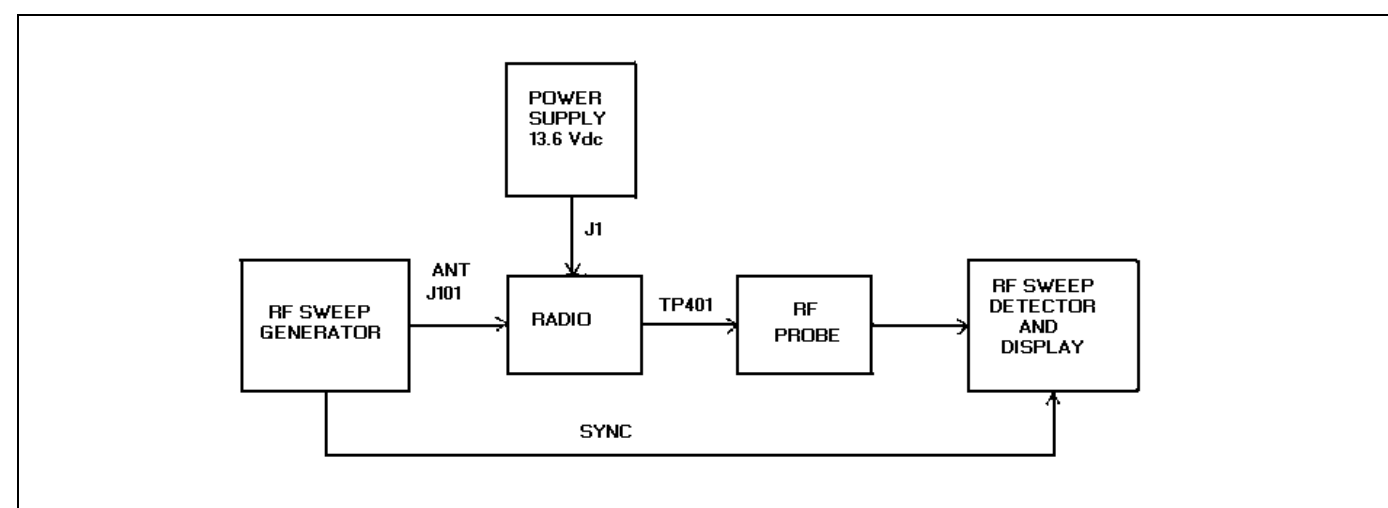

Figure 5 - Receiver RF Tuning Test Configuration
See Figure 5 for test configuration. The receiver RF filters Z401 and Z402 are fixed tuned for the most commonly used 20 MHz segment of a split. The filters do not require tuning even if they are replaced. The purpose of the tuning adjustment for each filter is to move the pass-band to another 20 MHz segment of the split. If all the receiver channels are within the pre-set 20 MHz bandwidth, skip the rest of this section since no front end tuning is required:
1. Apply a sweep signal generator (or equivalent equipment) with markers set to the desired 20 MHz bandwidth to antenna jack J101 as shown in Figure 5. RF output level of the generator should not exceed - 10 dBm. Reduce the output level if necessary to keep RF amplifier Q401 out of saturation and protection diode D402 off.